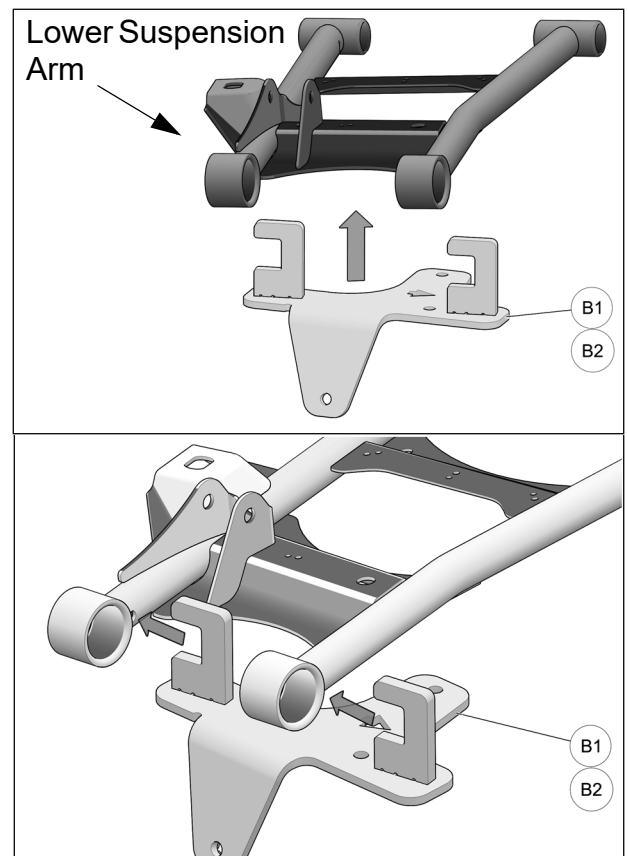

Fig. 3
4. Position anchor bracket (B1-B2) under lower suspension arm; C-shaped openings on bracket must be installed on suspension arm tubes. Refer to Fig. 3